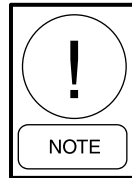

FIG. 2-103 – INSTALLED CARTRIDGE FILTER
6. The filter should now be securely installed into the frame (*see Fig.2-103*).